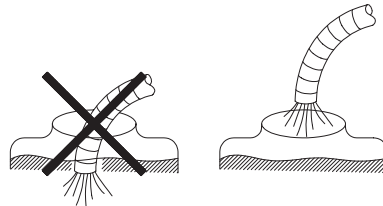

Fig. 17
**WARNING:** *Do not let the filling hose enter the tank. Keep it outside the tank, pointing towards the filling hole (fig. 17). If the hose is lead into the tank and the water pressure drops at the water supply plant, chemicals may be syphoned back and contaminate the water supply lines, plant and well.*